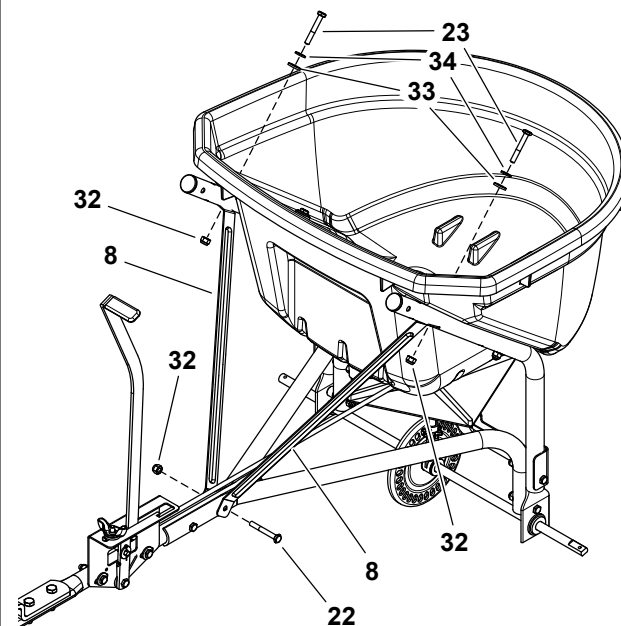

Figure 12
STEP 12: (SEE FIGURE 12)
- Fasten the hopper braces (8) to the hopper support tubes using two 1/4" x 1-3/4" hex bolts (23), 1/4" washers (34), nylon washers (33) and 1/4" nylock nuts (32). **Do not tighten completely.**
- Fasten the loose ends of the hopper braces to the hitch tube using a 1/4" x 2" hex bolt (22) and a 1/4" nylock nut (32). **Do not tighten completely.**